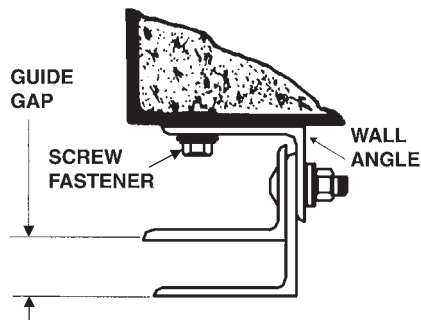

Figure 27
- If guides are flared, then bolt the middle angles and the outside angles to the wall angles like Figure 27.